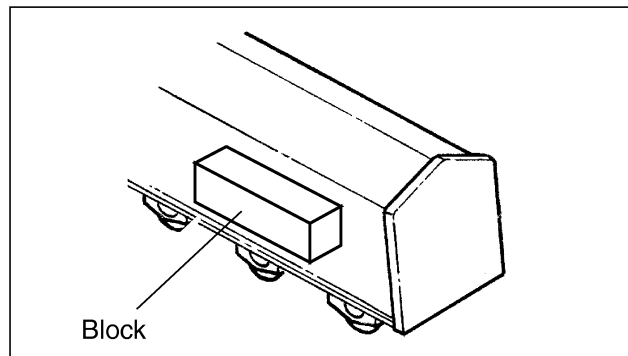

FIGURE 5.4C
*Place a hardwood or steel block between cables and crawler frame to prevent damage to the tracks from cables during lifting. See Figure 5.4C*